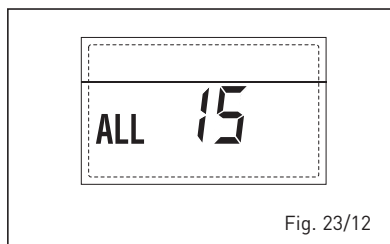

Fig. 23/12
– **EXTERNAL PROBE ANOMALY “ FLASHING” (fig. 23/13)**